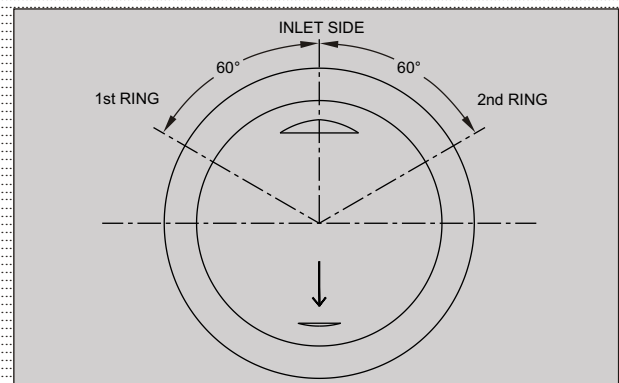

Fig. 3.169
- Assemble ring piston 2nd locating its end gap towards inlet side of the piston at 60 degree to the right from the center. (Fig. 3.169)
- Assemble ring piston 1st locating its end gap towards inlet side of the piston at 60 degree to the left from the center. (Fig. 3.169)